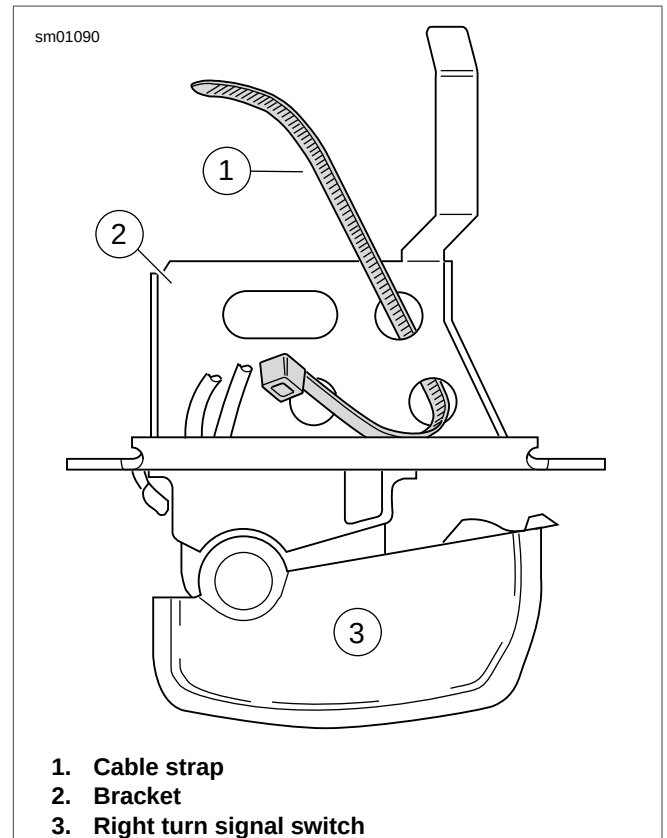

Figure 7-94. Insert Cable Strap in Switch Bracket
1. See Figure 7-94. Insert tapered end of **new** 7.0 in. (177.8 mm) cable strap (1) into round hole in turn signal switch bracket (2) and then feed back through using the adjacent hole. Reserve the oblong hole for the bracket screw.